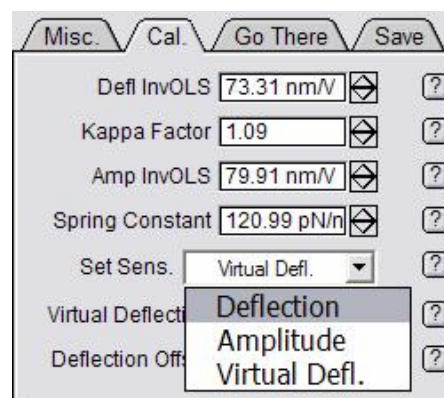

Figure 11: selecting sensitivity to update InvOLS value
- In the *Force* tab, click on 'Deflection' in the 'Set Sens' pull-down menu (Figure 11). The 'Defl InvOLS' (deflection inverse optical lever sensitivity) value will automatically be updated in the force panel, and connects the two cursors (⊗,⊗) in the deflection vs. LVDT plot with a thick black line (Figure 10 C). *It's a good idea to record this InvOLS in your notebook. (Amp InvOLS is Defl InvOLS times Kappa).*